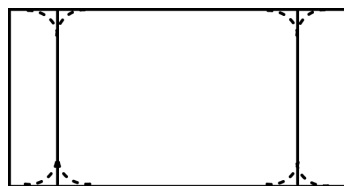

Fig. 4
- a. Adjust the EW at corner in Fig. 4 by UPPER-CORNER and LOW-CORNER.